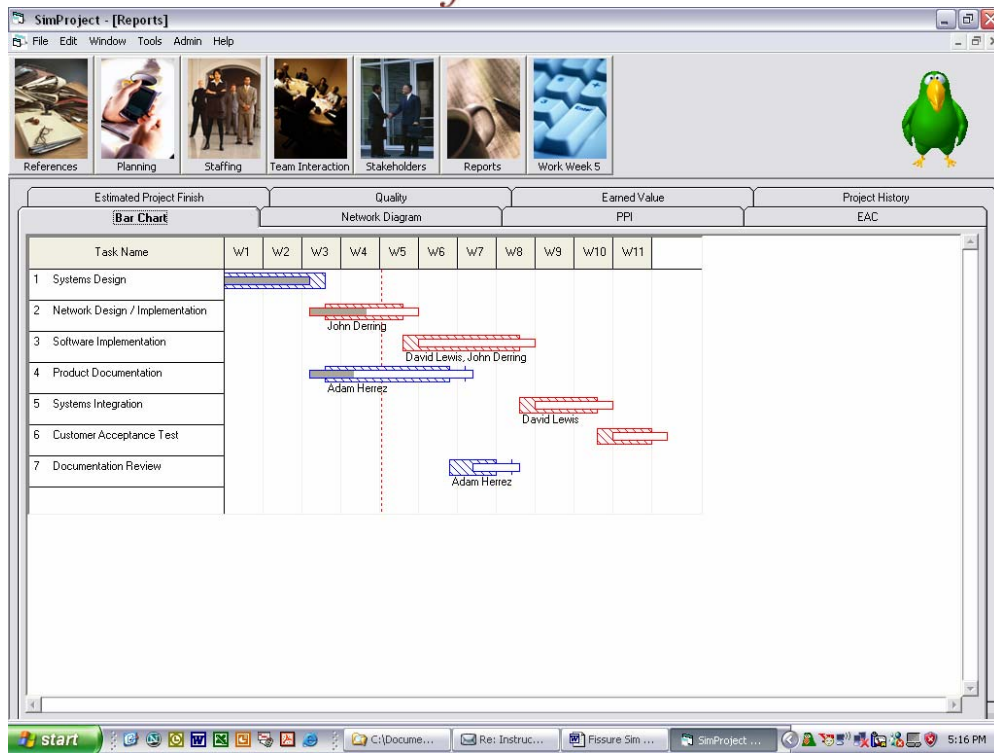

Figure 16 - Reports Screen – Bar/Gantt Chart
- Bar Chart – project timetable, task status (Figure 16)